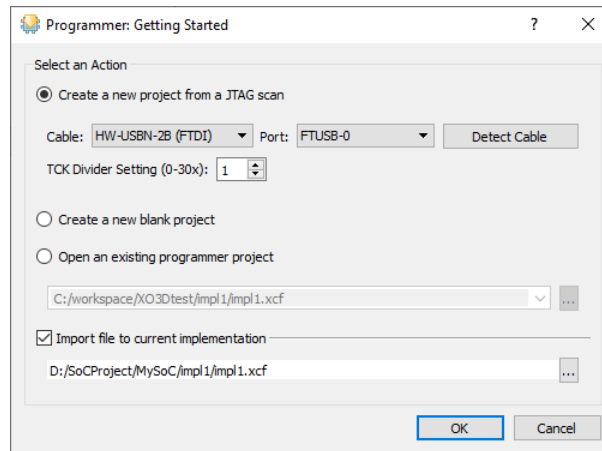

Figure 6.16. Programmer Getting Started Dialog
- The **Programmer: Getting Started** dialog pops up (Figure 6.16). Click **OK**.